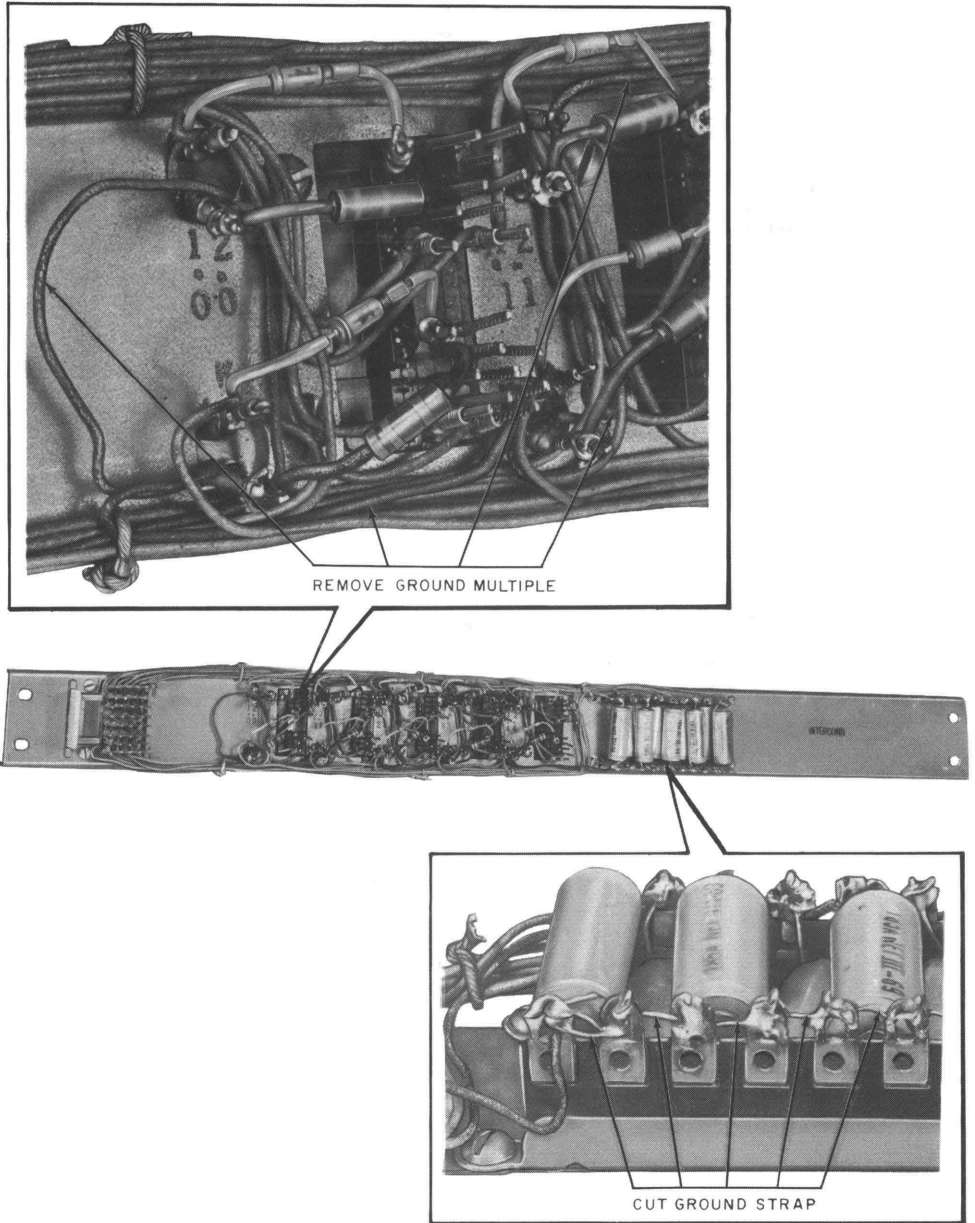

Fig. 8—F58356 Interconnecting Unit, Unmodified
shown in Fig. 8 and 9, is used for operation over paired wires.
- (a) Cut the bare strap wires between the bottom terminals on the terminal board on which networks Z1.0-Z1.4 and Z2.0-Z2.4 are mounted (see Fig. 8 and 9).
(b) Remove the black ground wire multiple (see Fig. 8 and 9) from terminals 1 upper and 1 lower of all relays. Remove the black ground wire from terminal 1B of the terminal board on which the networks are mounted. **Do not** remove the black ground wire from terminal 11